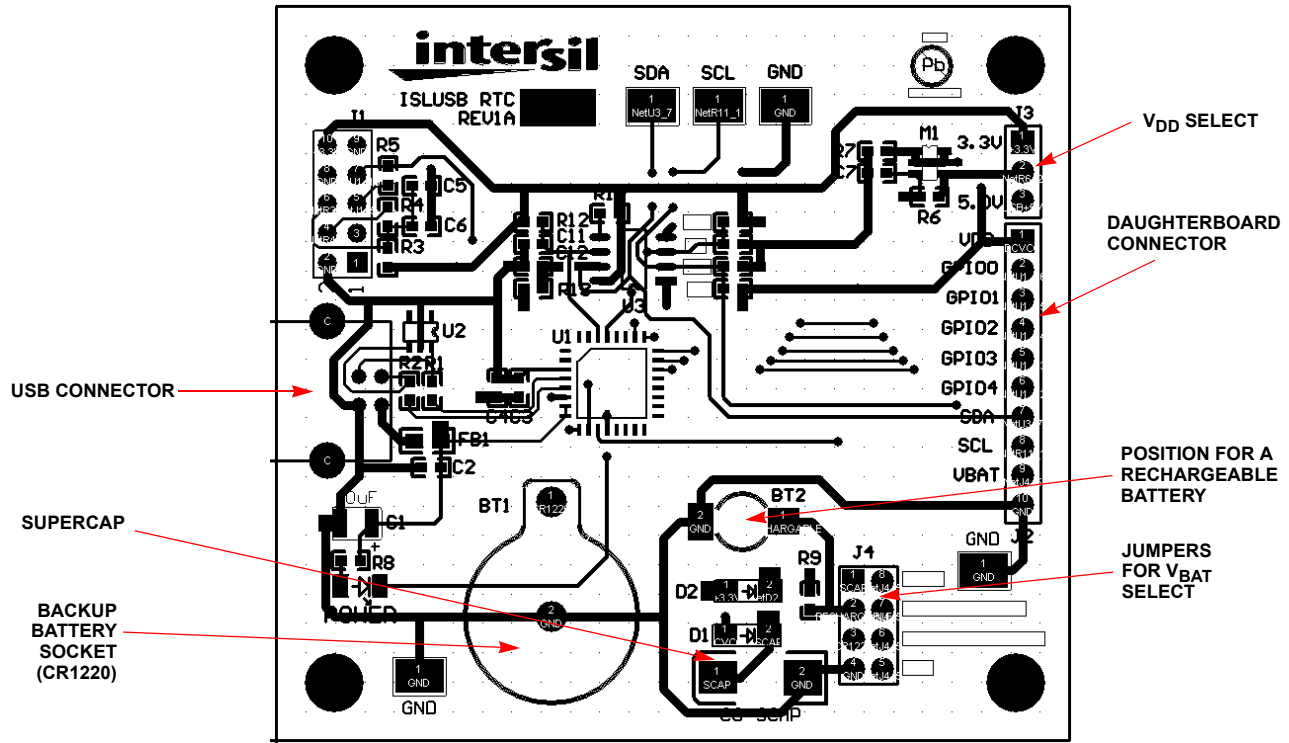

FIGURE 2. RTC EVB MOTHERBOARD LAYOUT
**Motherboard Functional Description (see Figure 2 and Schematic in Appendix A on page 13)**
years in normal backup operation. The backup source is selectable via jumper J4 as shown in Figure 2. The right-hand column of J4 connects to the RTC  $V_{BAT}$  pin (J2 pin 9), and the other column connects to the power sources. There are four positions possible on J4: Supercap (SCAP), rechargeable battery (BT2, user must install a suitable battery holder, but the charging diode [D2] and resistor [R9] are populated), CR1220 Battery (BT1), and ground (GND). If no backup is required, then the “GND” position should be used. To use an alternate  $V_{BAT}$  source, remove the jumper and connect the source to any of the right-hand column pins.